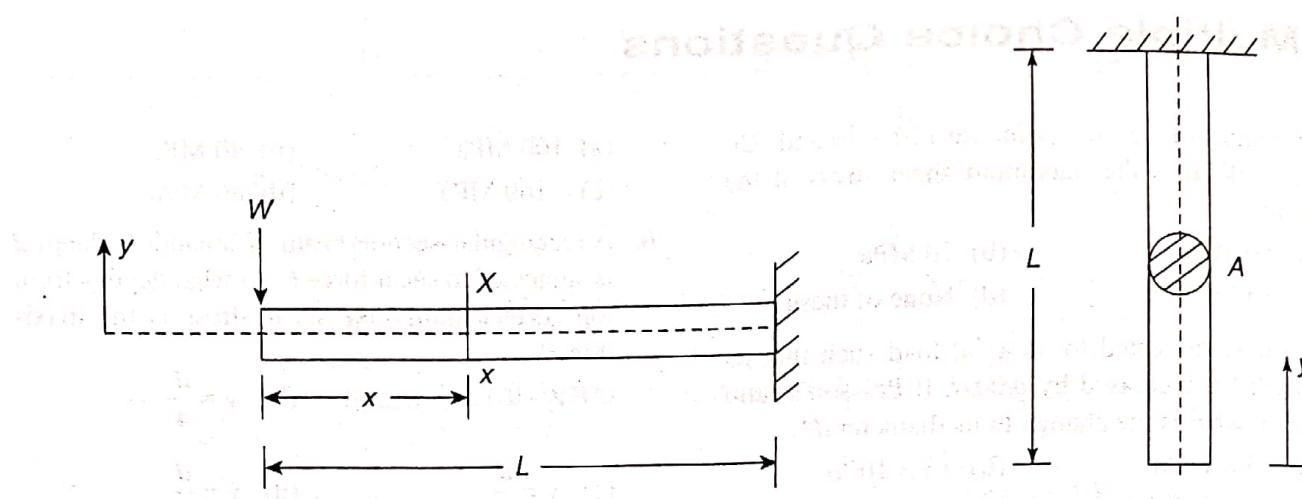

Figure 19.19
3. A cantilever of a rectangular section $B \times D$ is of length L as shown in Fig. 19.19. Write down stress tensor to determine state of stress at section XX at a distance of x from free end and at a layer at a distance of y from neutral layer.